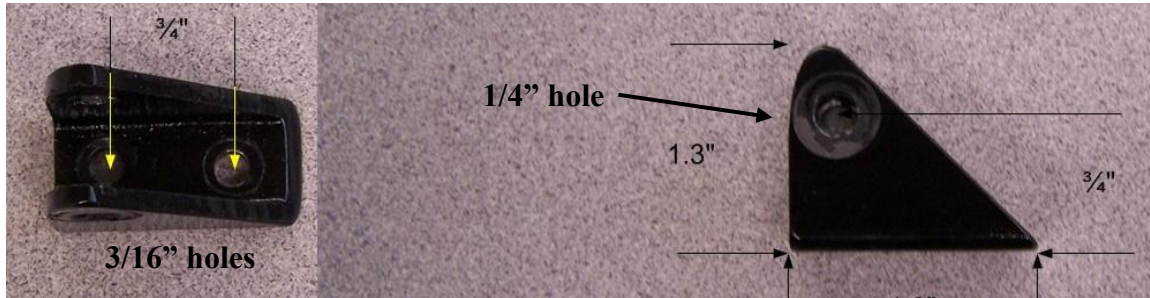

Figure 4: Cylinder Rear Mount Brackets
Two brackets will need to be made for the rear mount of two cylinders. When fabricating the brackets, use steel tubing (10). The bracket dimensions are shown in Figure 4. The easiest way to make these brackets is to first cut the steel tubing to 1.3" long. Then cut diagonally in half as seen in Figure 4. Two 3/16" holes and one 1/4" hole will need to be drilled as shown in Figure 4. After the holes have been drilled, round off any sharp edges.